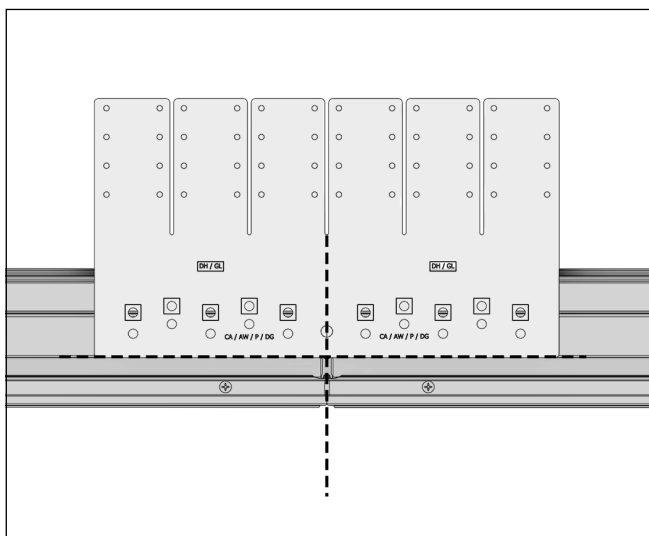

Figure 38
8. Center and align the bottom edge of the full gusset plate with the edge of the T-slot on all mull joints. If using a mounting flange, the full gusset plate can rest on flange for alignment. See Figure 38.